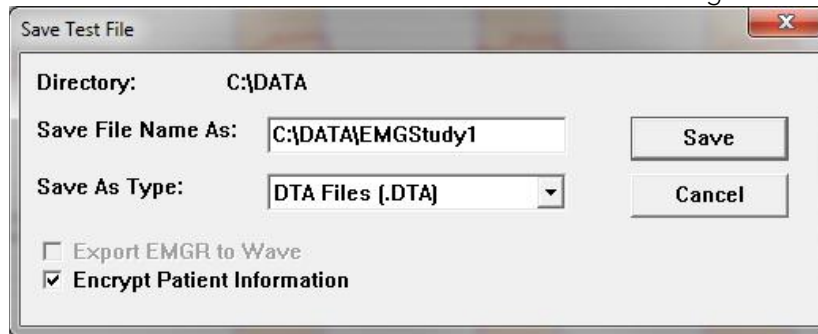

Figure 59: Save Test File Dialog Box
1. Click **Config** on the menu bar and select **Save As**. The *Save Test File* dialog box will appear (Figure 59).